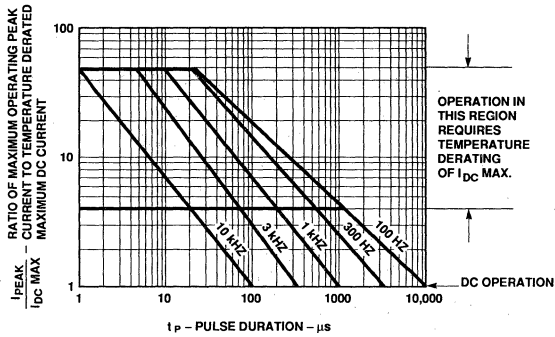

Figure 1. Maximum Allowable Peak Current vs. Pulse Duration - Red.
1. See Figure 1 to establish pulsed conditions.